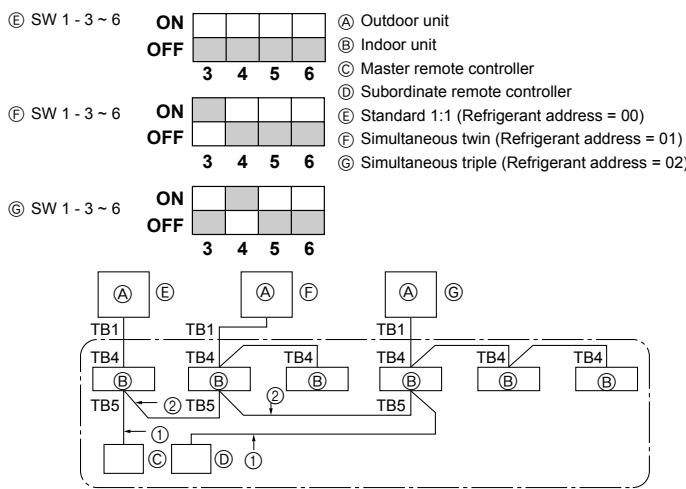

Fig. 9-1
- ① Supply power (circuit breaker).
- ② After the gas stop valve is closed, set the SWP switch on the control board of the outdoor unit to ON. The compressor (outdoor unit) and ventilators (indoor and outdoor units) start operating and refrigerant collecting operation begins. LED1 and LED2 on the control board of the outdoor unit are lit.
- ③ Only set the SWP switch (push-button type) to ON if the unit is stopped. However, even if the unit is stopped and the SWP switch is set to ON less than three minutes after the compressor stops, the refrigerant collecting operation cannot be performed. Wait until compressor has been stopped for three minutes and then set the SWP switch to ON again.
④ Because the unit automatically stops in about two to three minutes after the refrigerant collecting operation (LED1 and LED2 are lit), be sure to quickly close the gas stop valve. When LED1 and LED2 are lit and the outdoor unit is stopped, open the liquid stop valve completely, and then repeat step ② after three minutes have passed.
- ④ Turn off the power supply (circuit breaker).
9. System control (Fig. 9-1)